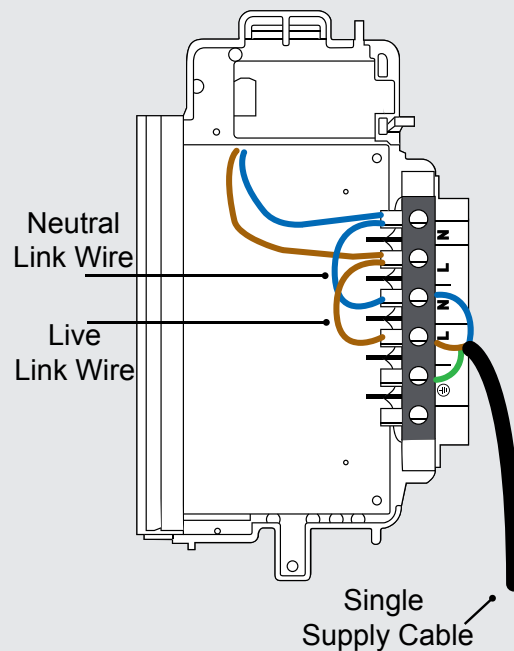

Fig. 9b
9. The heater leaves the factory configured to operate with two mains supplies, a 24 hour peak supply and an off peak switched supply (see Fig 9a). The heater can also be operated with a single main supply (Fig. 9b).